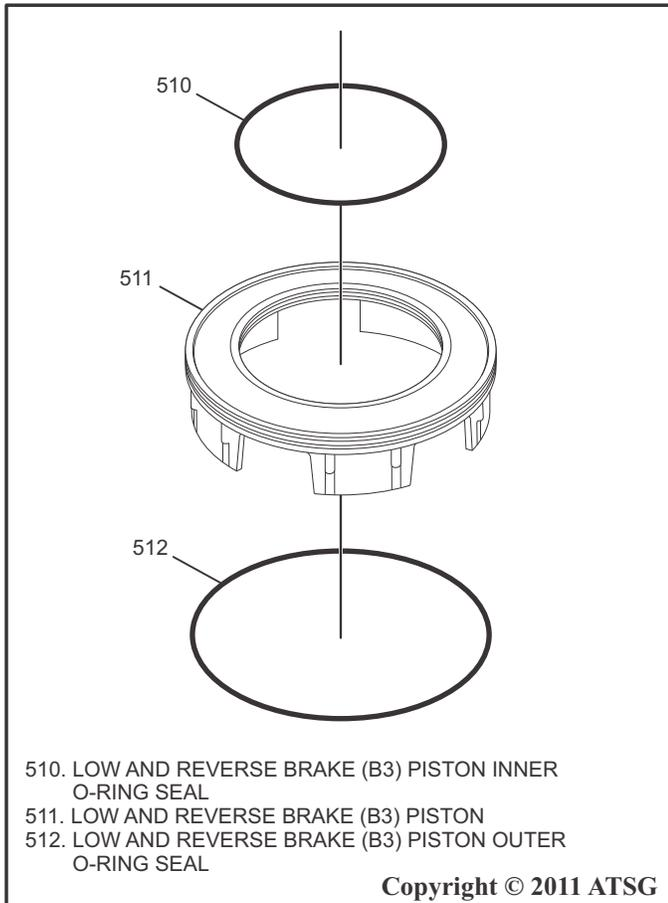

Figure 143
4. Install a new Inner O-ring Seal and a new Outer O-ring Seal on the Low and Reverse Brake (B3) Piston as shown in Figure 143.